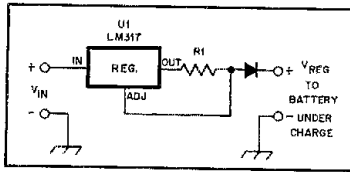

Fig. 1 — Circuit for a simple constant-current battery charger. The series diode can be a 1-A, 50-PRV silicon rectifier. U1 is a three-terminal regulator.
circuit in Fig. 1 is for a constant-current charger. The regulator is available in several types of cases. Pick your favorite. The input potential should be at least 5 to 6 volts greater than the desired maximum output voltage, and it may be up to 40 volts greater. Therefore, you have a broad range of input dc voltages with which to work. The greater the voltage difference between the input and output, the greater will be the dissipation in the regulator. The charging current in milliamperes is given by:
A polarity inverter seemed like the obvious answer. A basic circuit was decided upon. The problem was in locating a 1:1 transformer of adequate current rating for T1 of Fig. 1. We thought of winding the transformer on a large toroid, but soon abandoned that idea because we could not locate a large enough toroid, so we decided to use the core of an old TV transformer. The primary of T1 consists of 40 turns of no. 10 enameled wire, center tapped, while the feedback windings contain five turns each of no. 30 enameled wire. The secondary has 40 turns of no. 10 enameled wire also (no. 14
Fig. 1 — Schematic diagram of polarity inverter. Refer to text for a discussion of component types and values, which are not critical. Layout and construction techniques are not critical either.
The input filter of Fig. 1 (C3, L1 and C4) prevents noise from the bus electrical system from being coupled into the inverter. Component values are not critical. In our case, C3 and C4 are 0.47- μ F, 200-V dc capacitors, but larger-value capacitors should work. We recommend maintaining the somewhat-high voltage rating to prevent damage caused by voltage spikes. Our L1 carries Motorola part number 24A4/2536-0. If you do not have something comparable in your junk box, you can "roll your own" by winding at least 20 turns of no. 10 enameled wire on a 3/4-in. (19-mm) form. If the output of your inverter contains a "whine" component, increase the number of turns of L1 or increase the capacitance of C3 and C4.
the characteristic impedance of the filter, expressed in ohms. We won't cloud the issue by discussing all of the characteristics of an i-f filter. A detailed discussion of filters can be found in other ARRL literature.¹ We will concern ourselves here with the filter bandwidths (BW) and the filter shape factors. Fig. 1 illustrates how a filter passband would appear on a spectrum analyzer during the testing of a particular filter. In this example we find a -6 dB bandwidth of 500 Hz (0.5 kHz) and a -60 dB bandwidth of 4 kHz. The shape factor is the ratio of the two bandwidths, which in this case is 8:1. The smaller the ratio the better the i-f selectivity of the receiver and hence the greater rejection of signals adjacent to the one we're interested in copying. The more resonators or filter poles we use, up to a practical limit, the better the skirt selectivity and the more spectacular the shape factor. In a crystal filter the poles are the crystals, as seen in the ladder filter of Fig. 2. A 4-pole filter is illustrated. Typical crystal i-f filters have from one to as many as eight poles. Mechanical filters contain resonator discs, which are the selective elements for that kind of filter.
Why is the shape factor important? Well, consider the example in Fig. 3, which has a better response for cw reception than does the example in Fig. 1. The sides of the curve are much steeper for the 8-pole filter of Fig. 3. Imagine that you are listening to a cw signal that is tuned in at center frequency (f_c). A strong signal is present 750 Hz lower in frequency (8999.25 kHz on the curve). That signal will be 45 dB weaker than if it were tuned to f_c on the curve, by virtue of the *attenuation characteristics* of the filter. Now, imagine the same signal combination while using the filter represented in Fig. 1. The unwanted signal would be only 23 dB down on the curve. Hence, the wider the skirt of a filter, the more pronounced the QRM from the interfering signal. An ideal filter would have perfectly straight sides (rectangular response), but this is not attainable with the present state of the art.